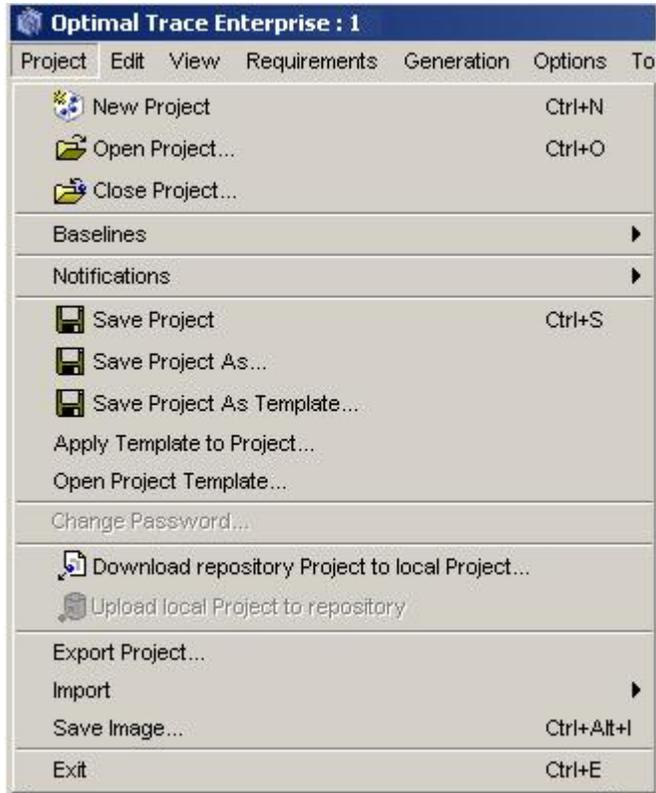

Figure 4 - Clicking the Project Menu
- From the Menu bar, click on Project and the screen shown in Figure 4 below will appear.